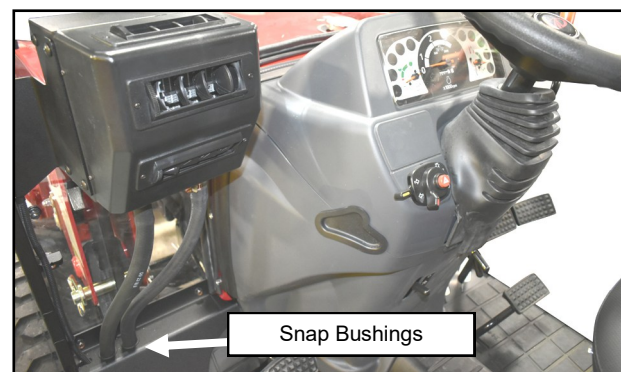

Fig. 20.1 (Snap Bushings and Heater Hose)
- 20.1 From inside the cab, install both 3/4" snap bushings down into the large holes in the left floorboard. Feed both ends of the 5/8" diameter hose up through the bushings to the inside of the cab, connect them to the nipples on the heater, and secure them with 1" hose clamps. See Figure 20.1.